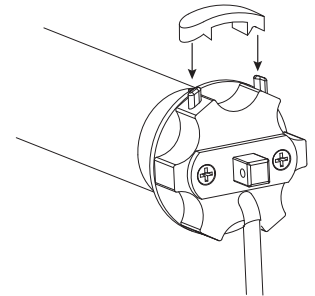

Fig. 9
- 12 To set the limits of the motor, position the shade in the down position and press the limit switch corresponding to the limit switch control chart below. Move the shade to the up position and press the 2nd limit button. Replace the yellow limit switch cap. (Fig. 9)